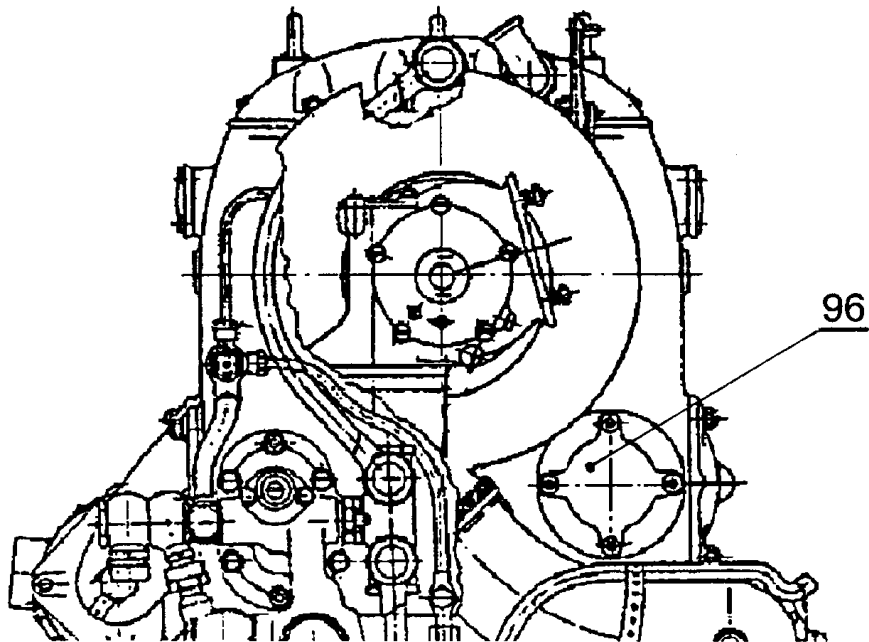

Fig.218 Cover of governor drive (engine back view)
- (4) Take off the safety lid (96) of the governor driving together with the sealing and the nuts, from the rear side of the engine casing of backside view right hand side up (see fig. 218).